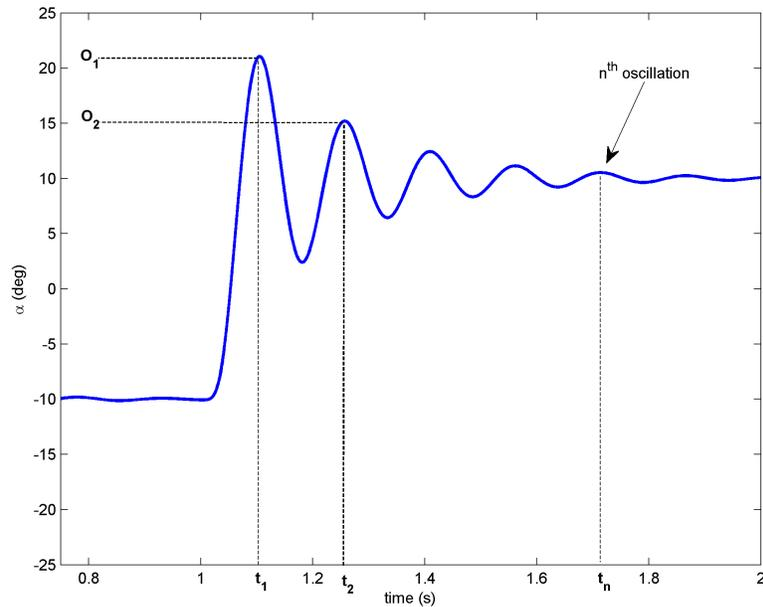

Figure 2.2: Free Oscillation Response
is shown in Figure 2.2. Assuming the initial conditions  $x(0^-) = x_0$  and  $\dot{x}(0^-) = 0$ , the Laplace transform of Equation 2.11 is
3. Find the the natural frequency of the response shown in Figure 2.2 if the peak values for the first and fifth oscillation are:  $t_1 = 1.12$  and  $t_5 = 1.71$  seconds. Because the damping is low, assume the damped and undamped natural frequency are equivalent.